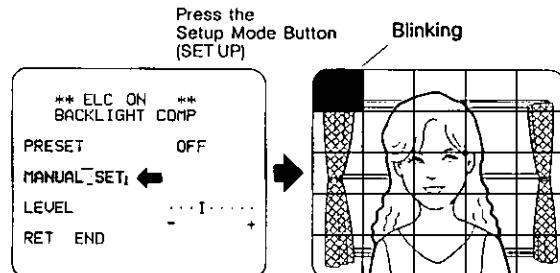

Fig. 60
- Move the cursor to the "MANUAL SET" mode position and press the Setup Mode Button (SET UP). The 25 Mask Areas appears on the monitor screen as shown in Fig. 60. The left top area starts blinking as a cursor.